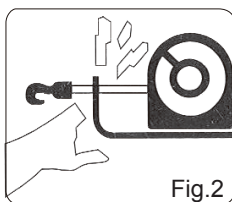

Fig.2
15. Keep hands clear of wire rope, hook and fairlead opening during operation. Fig.2